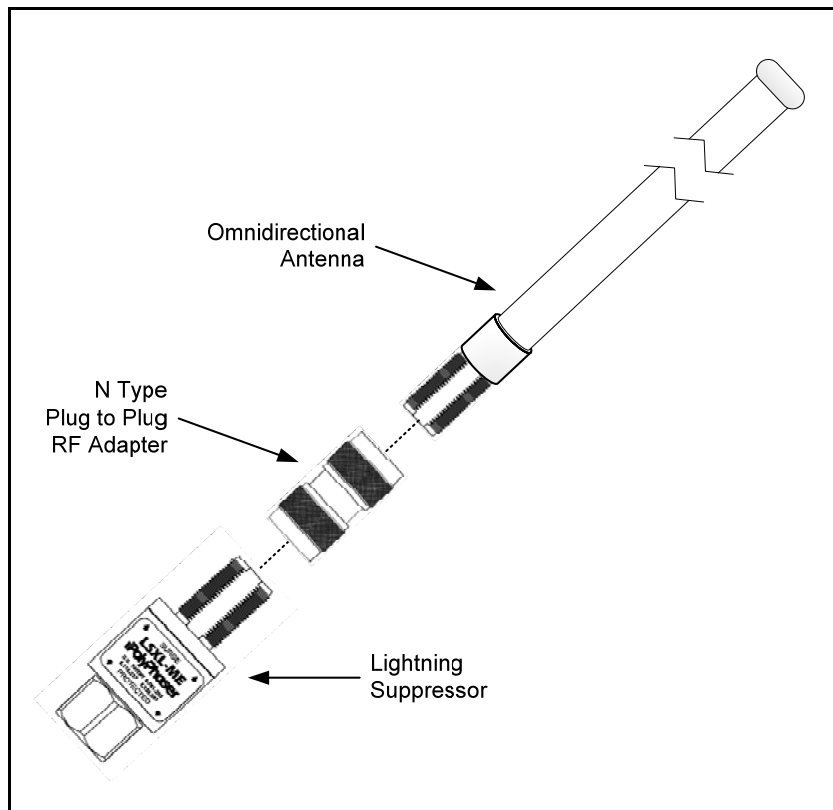

Figure 7-1: VIDA Broadband Client Antenna with External Lightning Protection
2. For non-hardened Clients, external lightning protection is required to provide maximum protection to the site. Connect the optional lightning suppressor to the antenna assembly as shown in Figure 7-1.